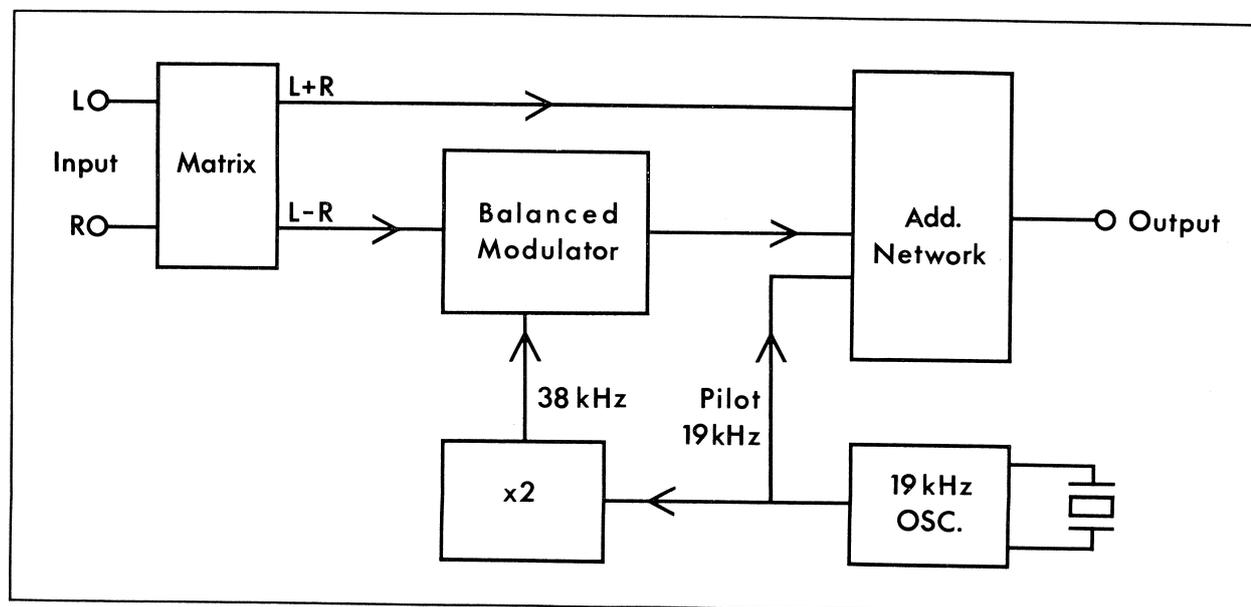

Fig.2. The Matrix Principle
Fig.2 shows the Matrix Principle. In a matrix circuit the sum (L + R) and the difference (L - R) of the left (L) and right (R) signals are obtained. The sum-signal is passed onwards to an adder network, and the difference-signal is modulated into a 38 kHz carrier. Using a balanced